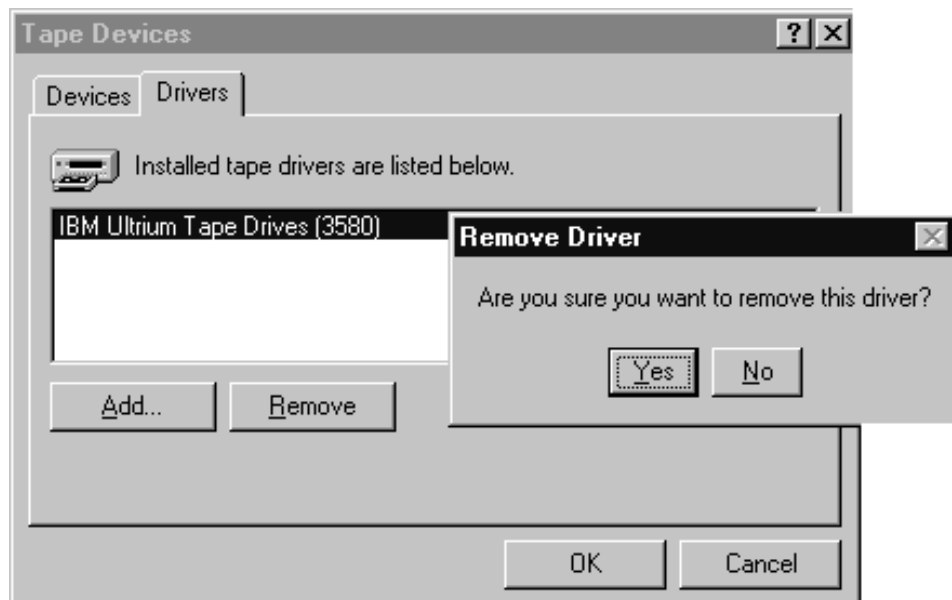

Figure 19. Remove Driver Menu
5. Highlight **IBM Ultrium Device Driver**, then click **Remove**. When you see the message **Are you sure you want to remove this driver?**, click **Yes**. See Figure 19.